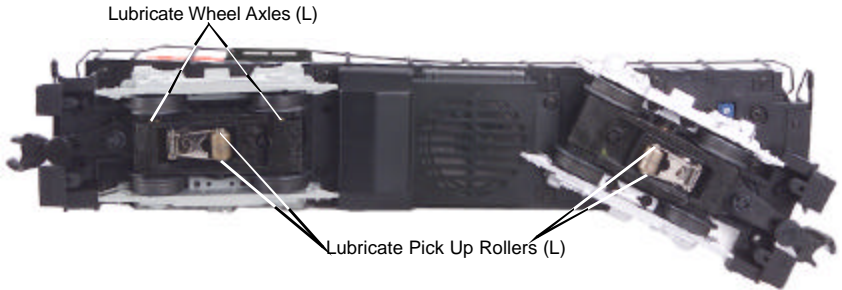
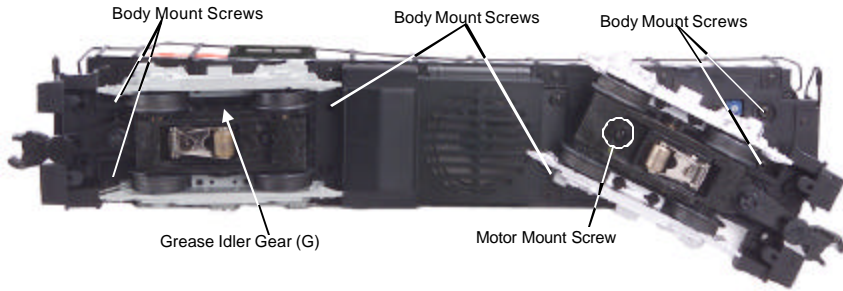

Figure 2. Lubrication Points on the Engine
Figure 3. Greasing Points on the Engine and Locations of Body Mounting Screws
Although the engine was lubricated at the factory, it is important that you lubricate the chassis before operation. Lightly grease the outside idler and drive gears (marked “G” in Fig.3 on pg. 9) to prevent them from squeaking. Use light household oil and follow the lubrication points marked “L” in Fig. 2 on pg. 8. Do not over-oil. Use only a drop or two on each pivot point.
You should regularly lubricate all outside idler gears and pickup rollers to prevent them from squeaking. Use light household oil and follow the lubrication points marked “L” in Fig. 2. Do not over oil. Use only a drop or two on each pivot point.
1. Remove the Phillips screws from the chassis, as seen in Figure 3, then lift the body away from the chassis. Use caution when removing the body to make sure the handrails clear the cab housing so that the paint is not damaged.
2. Remove the truck blocks from the chassis by unscrewing the black Phillips motor mount screw (labeled motor mount screw in Figure 3) on the bottom of each truck block.
It is also a good idea to lubricate the outside truck block idler and drive gears with grease occasionally. Add grease to the points marked with “G” in Figure 3.